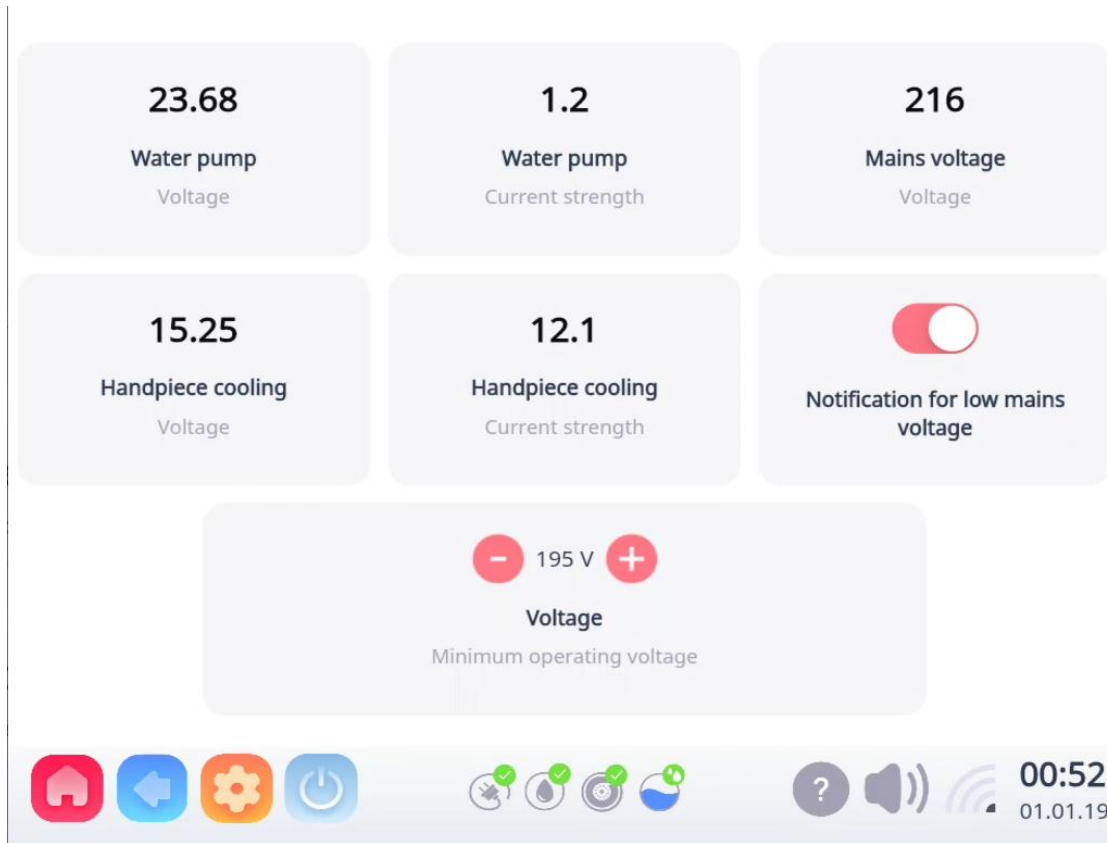

Figure 5.4-30
- Click "Engineering menu" to enter the service catalog interface, and you can view some electrical data of the device. (See Figure 5.4-30)